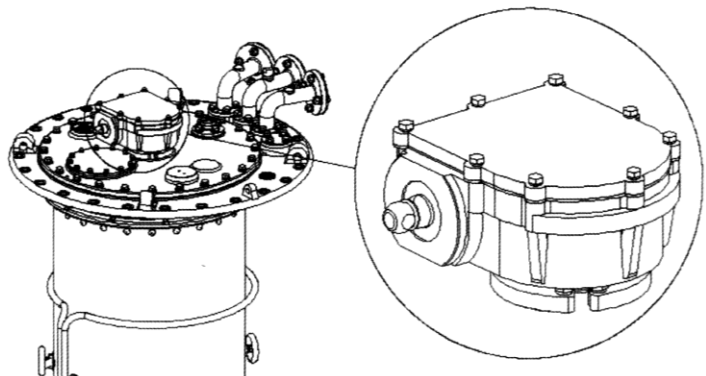

Figure 47 Turn the gear box
- 2) Turn the gear box to the required installation position by rotating the drive shaft of the gear box. (Figure 47)